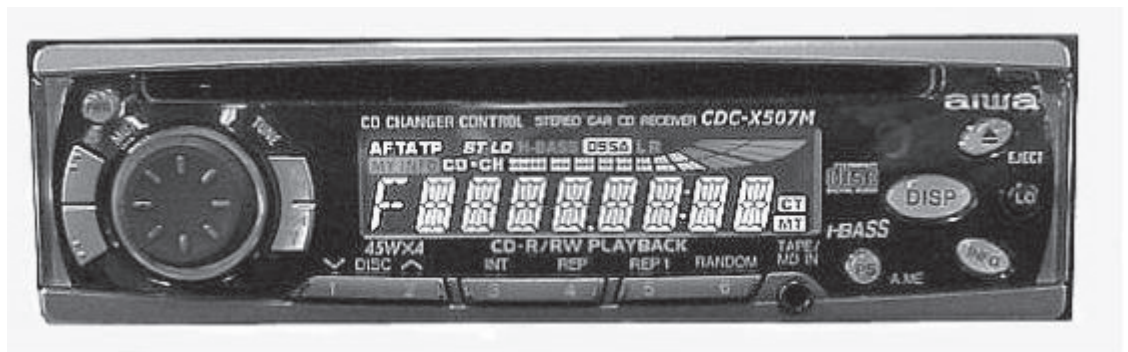

Fig. 2
- 4) Test mode will be activated and all LCD display will light up. (Fig. 2)